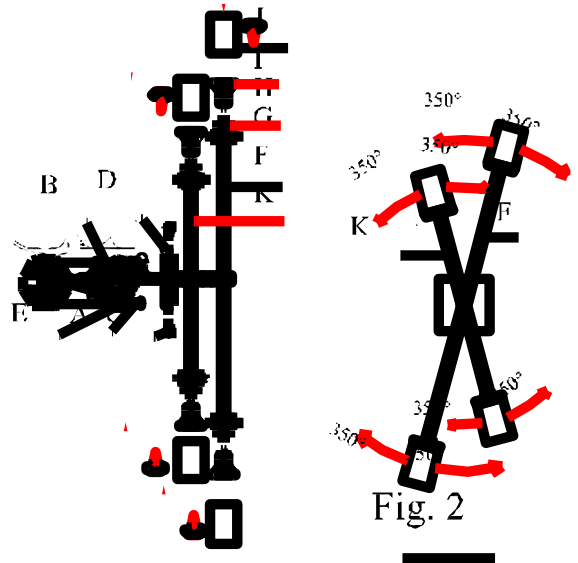

Fig. 2
STEP2: Put the back plate (D) over the universal mounting plate (B) and secure it to universal mounting plate rib (E) with mounting screw (C).
STEP3: Install bulb (I) to socket (H) (Do not exceed the maximum capacity recommended on the socket.)
STEP4: Thread metal shade (J) to fitter (G) tightly
STEP5: The fixture arm (F), (K) could be rotated to the angle desired.(Note: Max. 350°. (See Fig. 2)